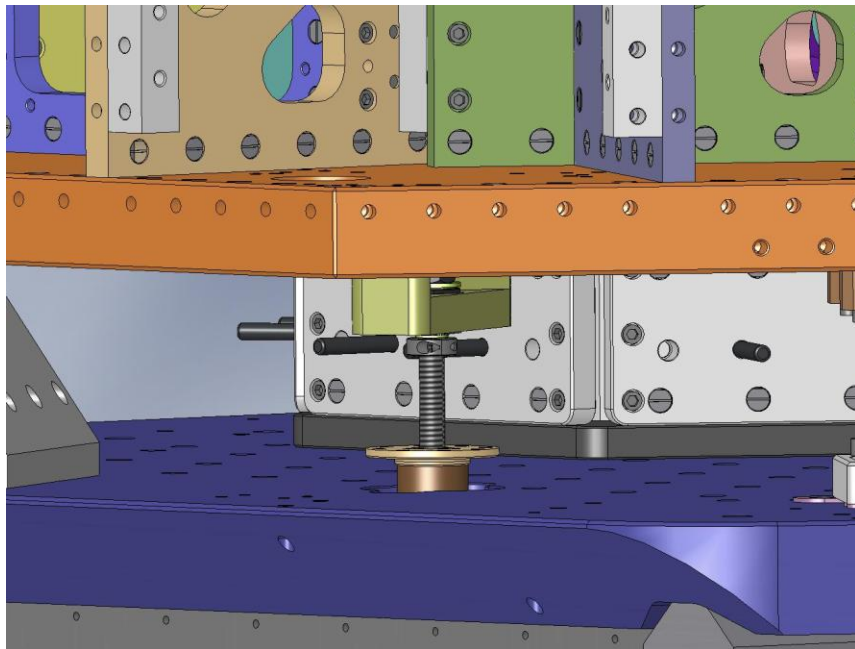

Figure 3.88. The (3) Spring Pull-Down Bases mount inside pockets in the Stage 0 Base.
- Move the (3) bottom parts of the **Spring Pull-Down Assemblies** (above, Figure 3.59) between **Stage 0** and **Stage 1**. Insert the **Spring Pull-Down Bases** (D071307) in the (3) matching pockets in the **Stage 0 Base**, as shown in Figure 3.88.